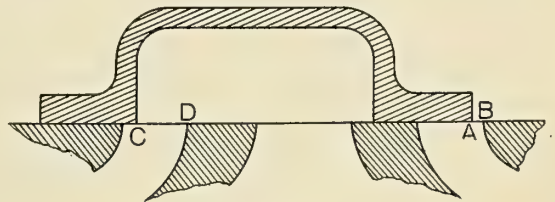

FIG. 85.
**Lead**—The amount by which a valve port is open when the engine is on the center, or piston at the end of the stroke. See Fig. 85, where *AB* on the steam side